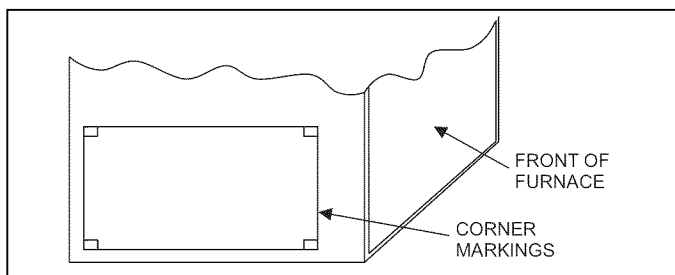

FIGURE 9: Side Return Cutout Markings
Locate and knock out the square corner locators. These indicate the size of the cutout to be made in the furnace side panel. Refer to Figure 9.
1. Shut off gas supply at valve upstream from furnace or at meter as required. Refer to Figures 9 and 10.